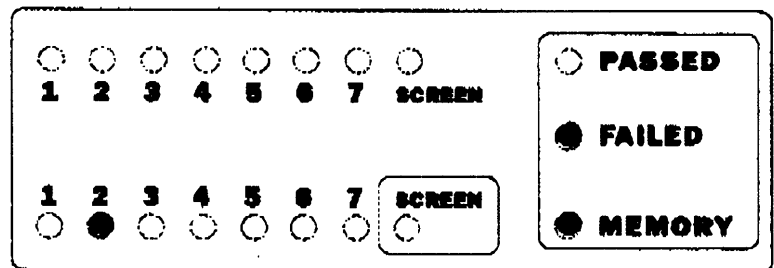

Fig8. OPEN CIRCUIT BETWEEN Pin2.
- An open connection was found, usually indicated by a single LED (Fig8).